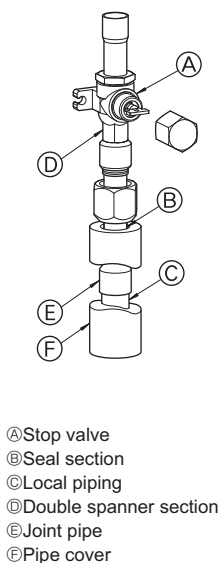

Fig. 4-3
③ Use the following procedure for connecting the gas-side piping. (Fig. 4-3)